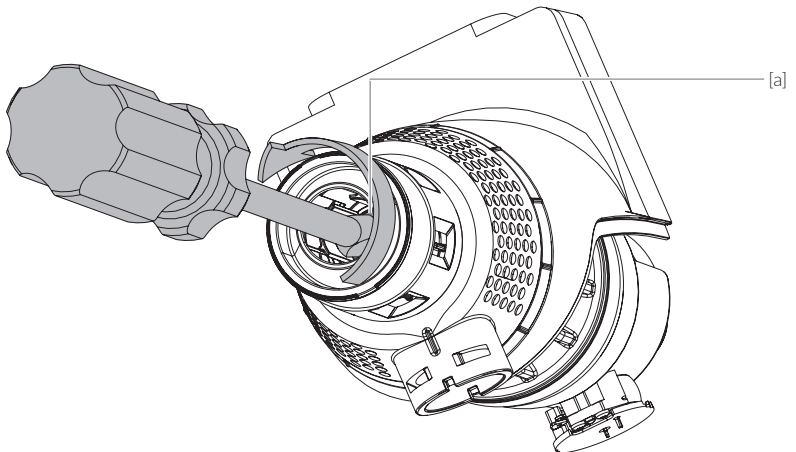

Fig. 9.5
- / Fig. 9.5: Loosen the reducing sleeve [d] from the underside with a slotted screwdriver in the direction of arrow
The **CLEAR** PRO RD domestic water unit and also the **CLEAR** PRO R backwash filter are designed in such a way that the filter element can be cleaned or replaced after disassembly (according to chapter 9.3 Maintenance of pressure reducer, Fig. 9.5 to 9.9).